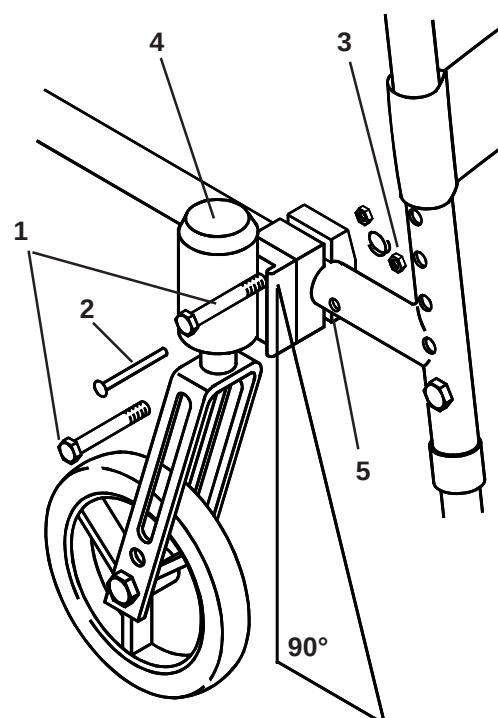

Fig. 51
Loosen the two eccentric bolts (1). Remove the clevis pin (2) by taking off the locking spring (3). Slide the castor housing (4) forward or rearward and insert clevis pin into one of three pre-drilled frame holes (5). Follow the procedure for angle adjustment given above. Repeat the process for the other castor (Fig. 51). (Fixed front frame).